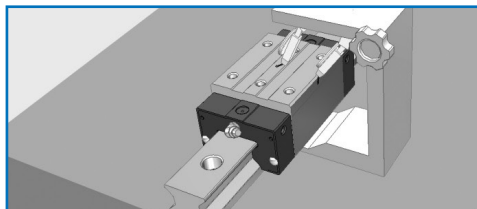

Figure 6. Parallelism of motion
The degree of travel of Linear Motion guide is measured as below. (See Figure 6)
- Tighten rail to the mounting surface of the bed using a bolt at the prescribed torque. (See Figure 6)